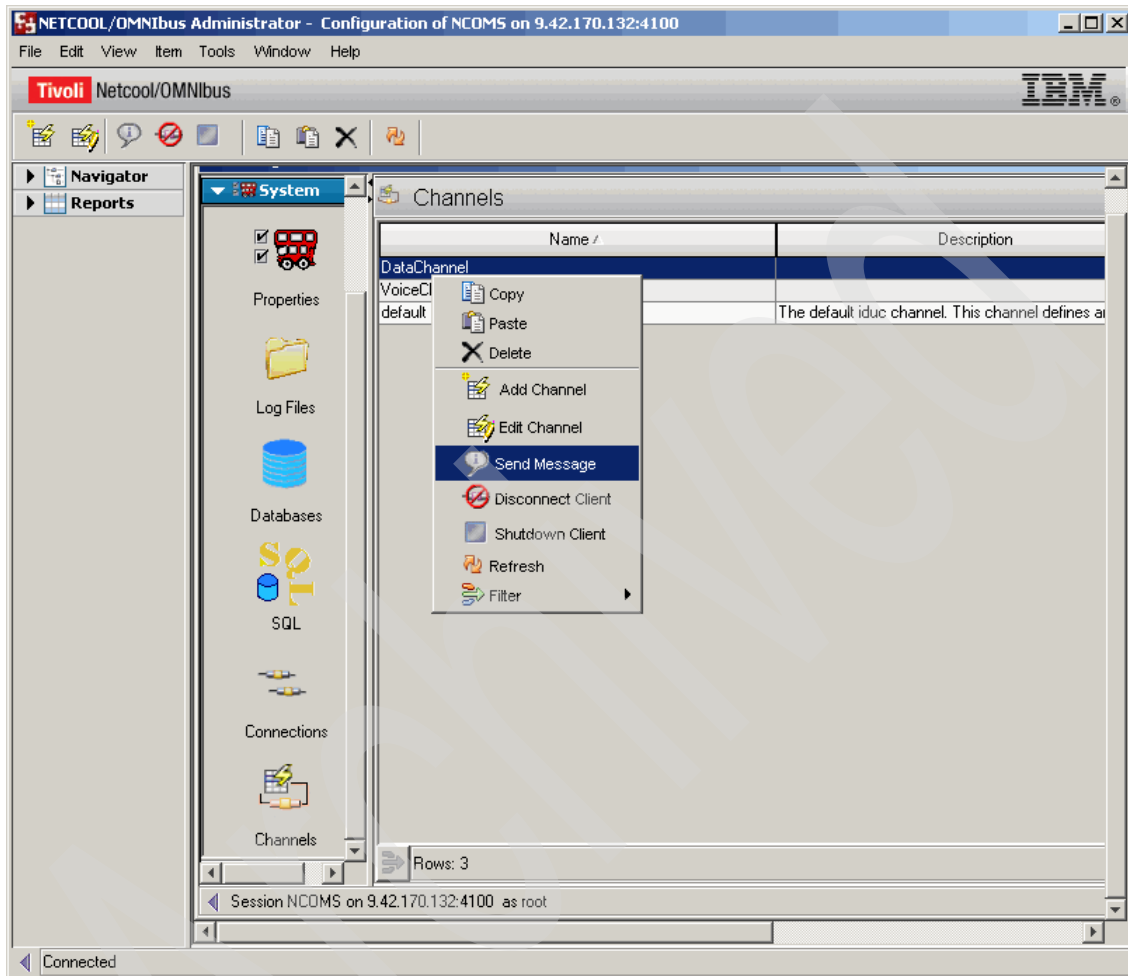

Figure 4-63 Test channel
11. Test the Channel notification by right-clicking the channel and selecting **Send Message**, as shown in Figure 4-63.